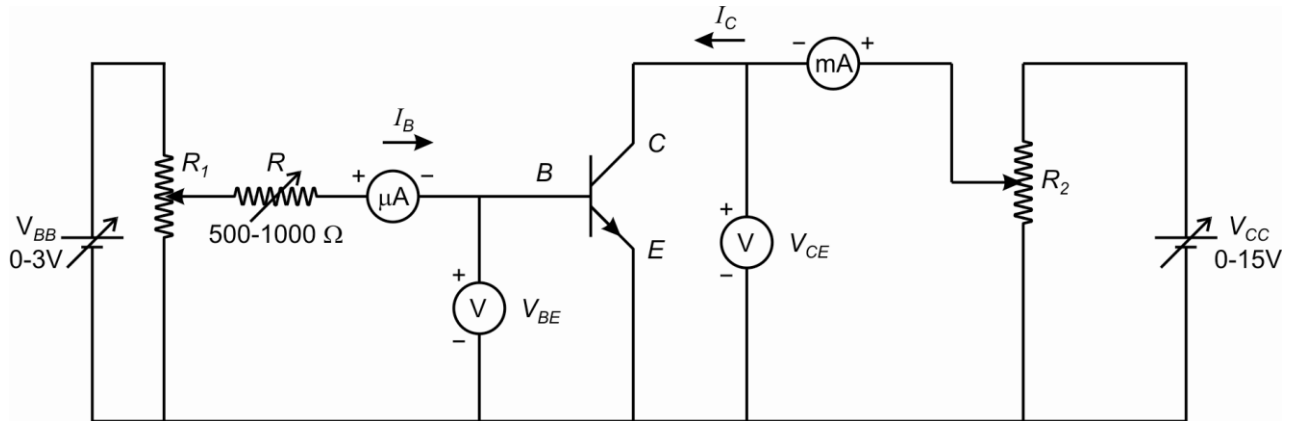

Fig. 7.3: Circuit diagram for determining characteristics of an *n-p-n* transistor in CE-configuration.
1. Make the connections as shown in Fig. 7.3. V_{BB} is a variable dc supply of 0-3V and V_{CC} is a variable dc supply of 0-15V. R_1 and R_2 are 2.5 k Ω /2W potentiometers, and R is a variable resistor.
In case a transistor kit is given to you, ensure that the basic circuit given in Fig. 7.3 is in operation. (If you are given a *p-n-p* transistor, you will have to reverse the polarities of batteries and various meters.) By means of potentiometers R_1 and R_2 , you can adjust the voltage in the base and collector circuits, respectively.
For obtaining output characteristics also, you should use the circuit shown in Fig. 7.3 and follow the steps given below: